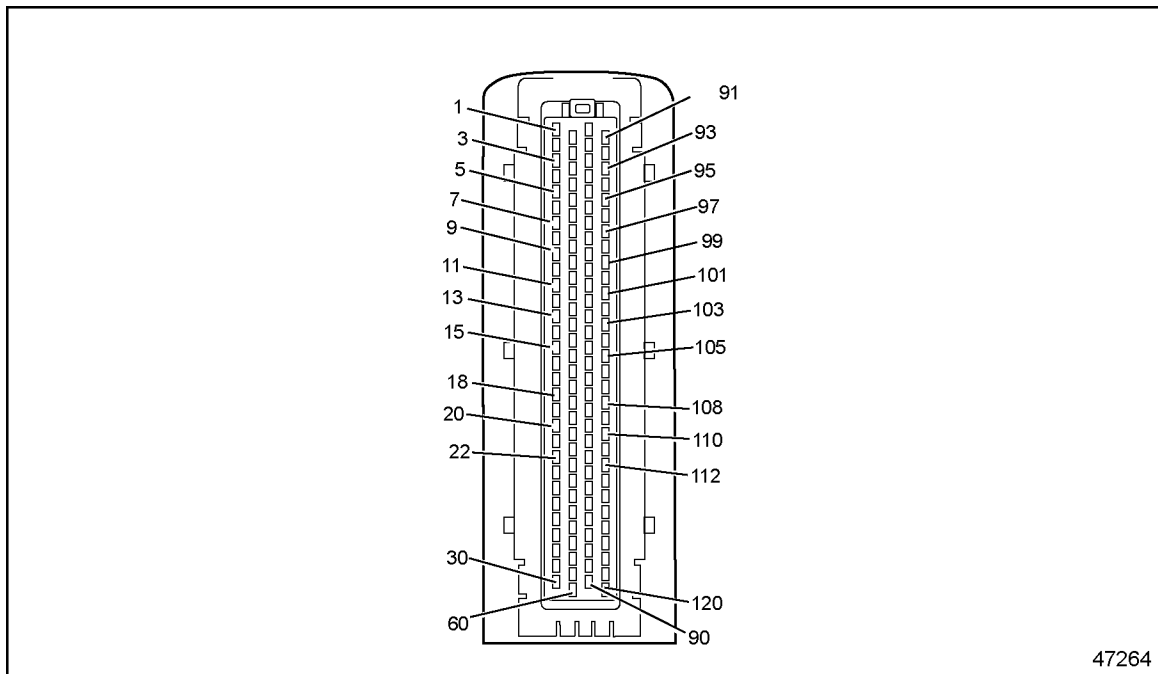

Figure 26-2 120-pin MCM Connector
- [a] If voltage is greater than 5 volts, repair the short to power between pin 82 of the 120-pin MCM connector and pin 2 of the EOP Sensor connector. (see Figure 26-2). Refer to section 26.2.1.1.
- [b] If no voltage is present, go to step 5 (see Figure 26-2).
- [a] If voltage is greater than 5 volts, repair the short to power between pin 105 of the 120-pin MCM connector and pin 3 of the EOP Sensor connector. (see Figure 26-2). Refer to section 26.2.1.1.